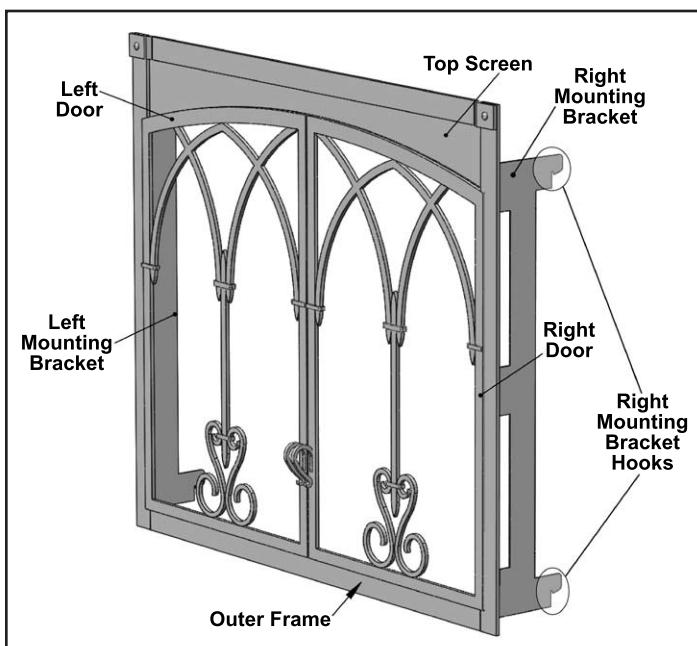

Figure 104: Optional Front Parts.
There are many different styles of optional fronts available for your fireplace. These fireplace fronts hang onto the front of your fireplace using four (4) hooks, one on each corner (refer to Figure 104). These hooks secure the front to the fireplace, providing for easy removal for service access to the fireplace and also to position the front the proper distance away from the glass door and the fireplace facing.